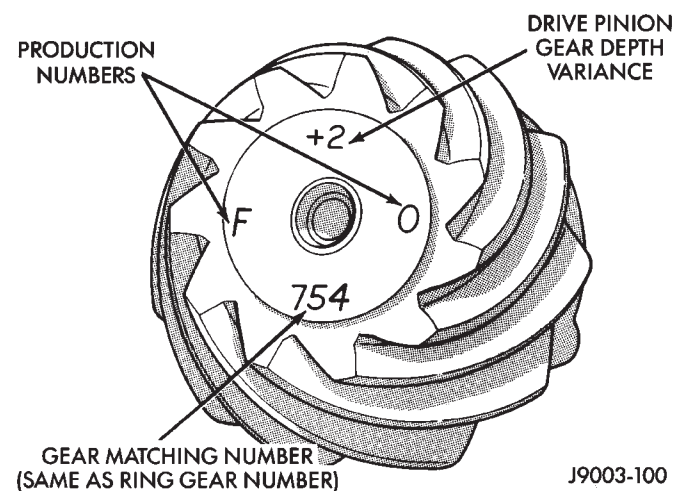

Fig. 73 Pinion Gear ID Numbers
Ring and pinion gears are supplied as matched sets only. The identifying numbers for the ring and pinion gear are marked on the face of each gear (Fig. 73). A plus (+) number, minus (-) number or zero (0) is marked on the face of the pinion gear. This number is the amount (in thousandths of an inch) the depth varies from the standard depth setting of a pinion marked with a (0). The standard depth provides the best teeth contact pattern. Refer to Backlash and Contact Pattern Analysis Paragraph in this section for additional information.
(25) Select a shim equal to the shim selected above plus the drive pinion gear depth variance number marked on the face of the pinion gear (Fig. 73) using the opposite sign on the variance number. For exam-